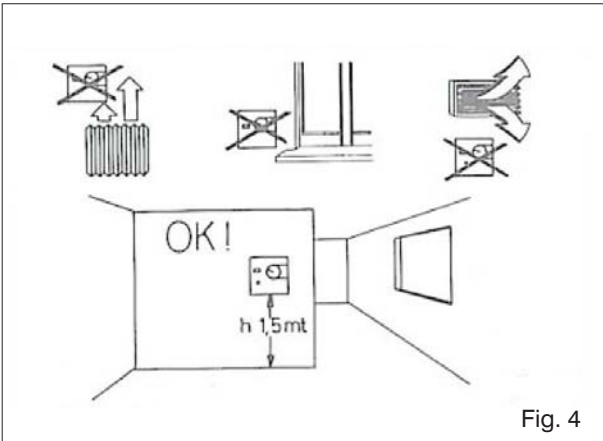

Fig. 4
- Position on the wall as indicated in **Fig. 4** and mark the perforations.